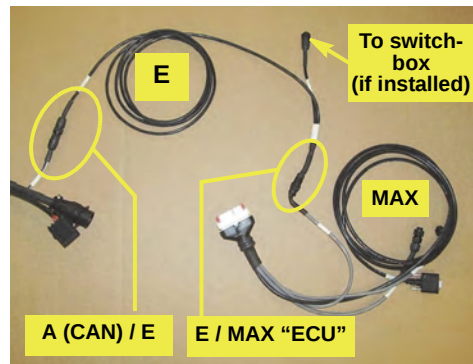

Figure 1c: Splitter cable connections
- c. Using the splitter ('Y') cable **E** (but see note following), tie into the existing CAN connection. For example, connect **E** between the 7-pin CAN connector labeled “ECU” on the Outback MAX cable (with the white main connector) and the 7-pin CAN connector on interface cable **A** (Figure 1c).
You can use splitter cable **E** as an extension cable between interface cable **A** and the CAN connection “ECU” on the (white connector) Outback MAX cable. You can also use cable **E** to connect the switchbox if installed (Figure 1c).